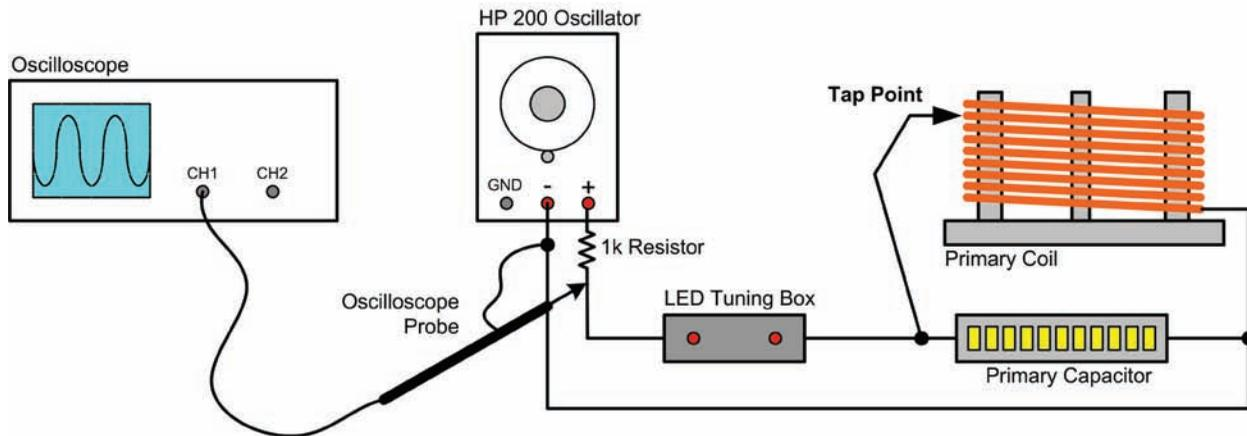

Figure 5-9 *Primary Coil Initial Tuning Set-up*
4. Once the resonant frequency of the secondary coil assembly is determined, the next step is to determine the initial tuning point of the primary coil. Connect the test circuit as shown below in Figure 5-9. Set the signal generator for maximum output amplitude, and set the output frequency of the signal generator to the measured secondary coil resonant frequency which was determined in step 3 on the previous page. Verify the output frequency of the signal generator using the oscilloscope to ensure accuracy.